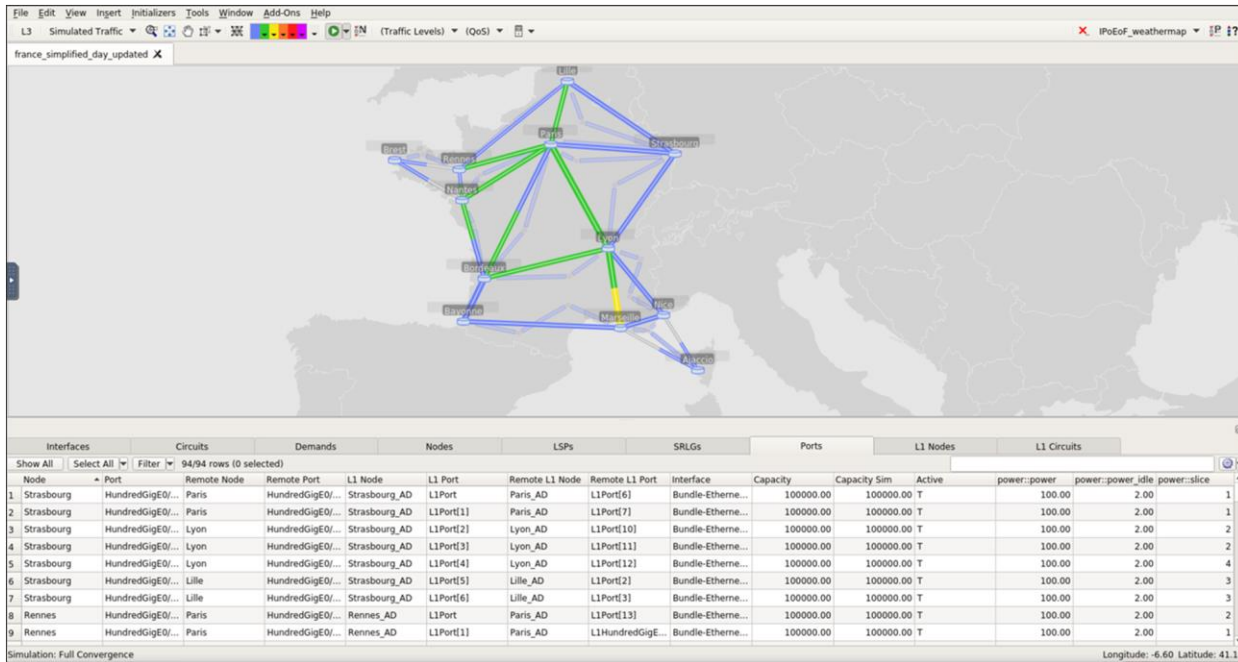

Figure 1. WAE network model includes power consumption for each link
- The model includes power data for each link, as shown in Figure 1. Cells at the right of each row show power consumption in both the active and idle state.